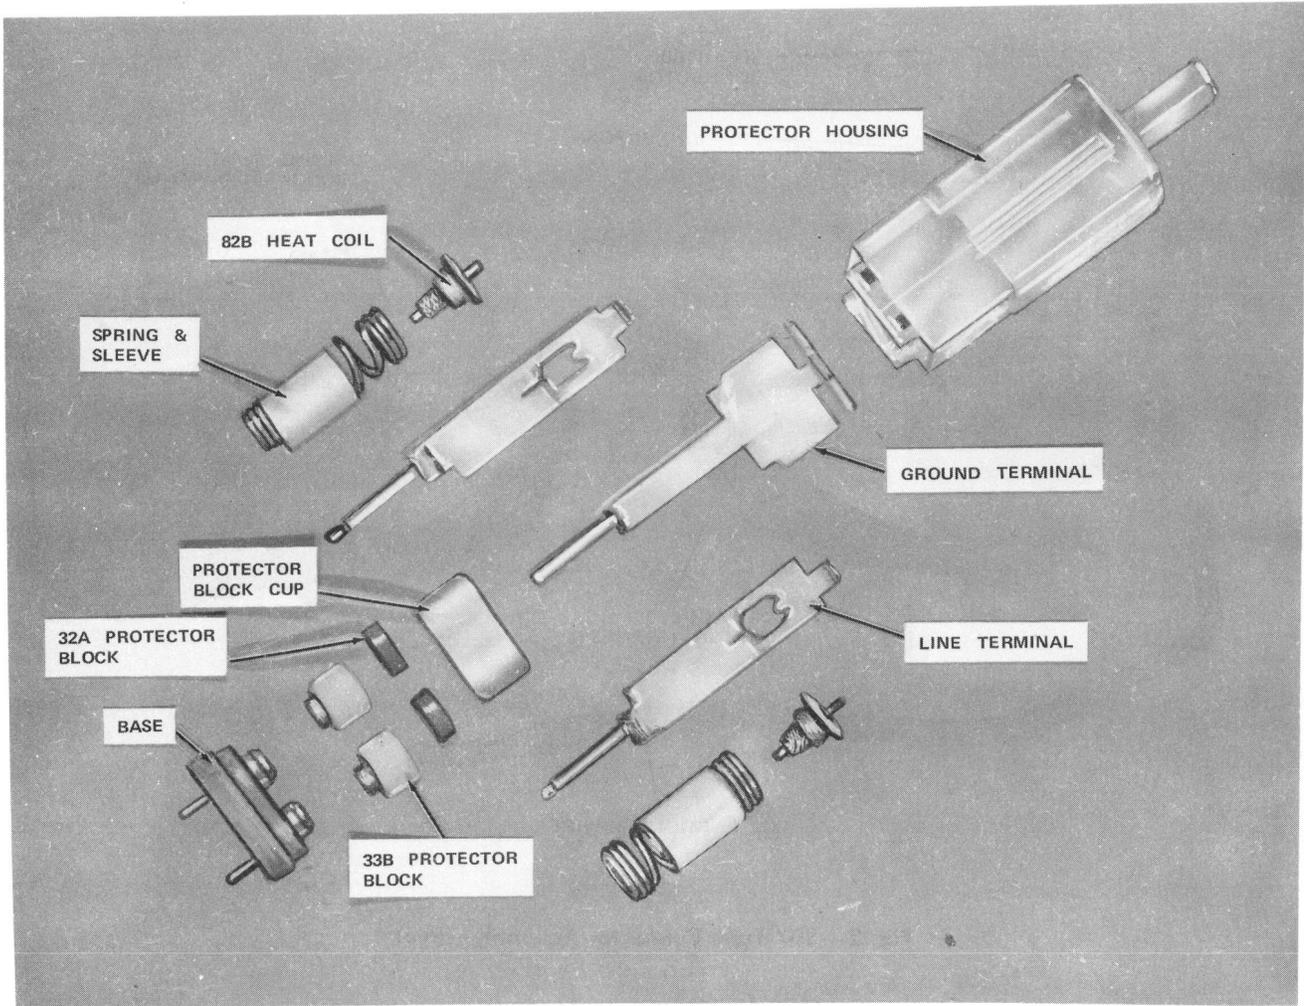

Fig. 3—4C-Type Protector Unit
6.01 There are several types of 4C-protector units used on the 307-connector. Table A identifies each type by color and application. Figure 3 identifies the parts of a protector unit. The purpose of a protector unit is to provide current and voltage protection to the inside plant equipment, except for the 4C12C type protector unit which provides continuity on circuits not requiring protection.